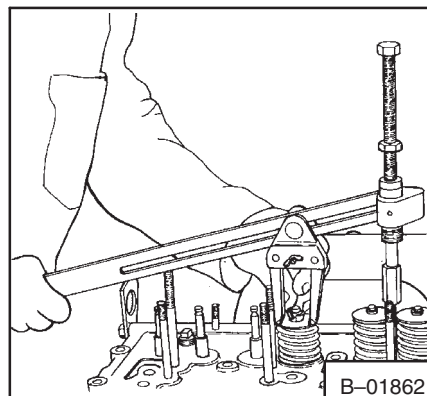

Fig. 7-16 Valve Spring Compression
5. Use a valve spring compressor, as shown in Figure 7-16, to compress the valve springs and locate the retaining semi-conical collets.